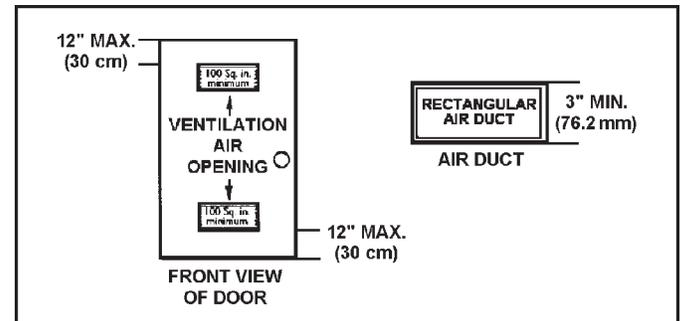

FIGURE 10.
A. ALL AIR FROM INSIDE BUILDINGS: (See Figures 10 and 11)